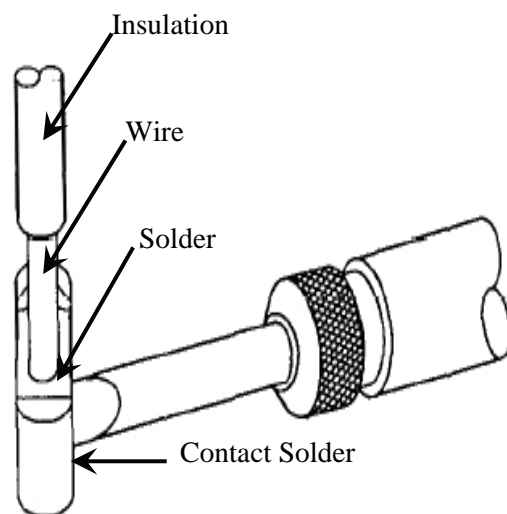

Figure 9. Wire Inserted into Contact
- e. Ensure wire is bottomed in contact before soldering iron is removed (Figure 9).